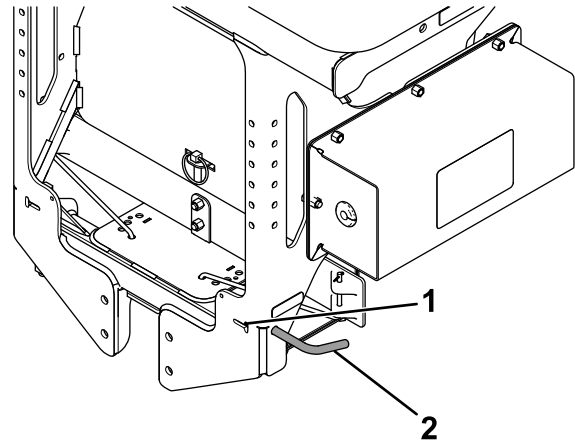

Figure 26
3. Pull the spinner spring pin outward and lock it into the keeper slot (Figure 26).